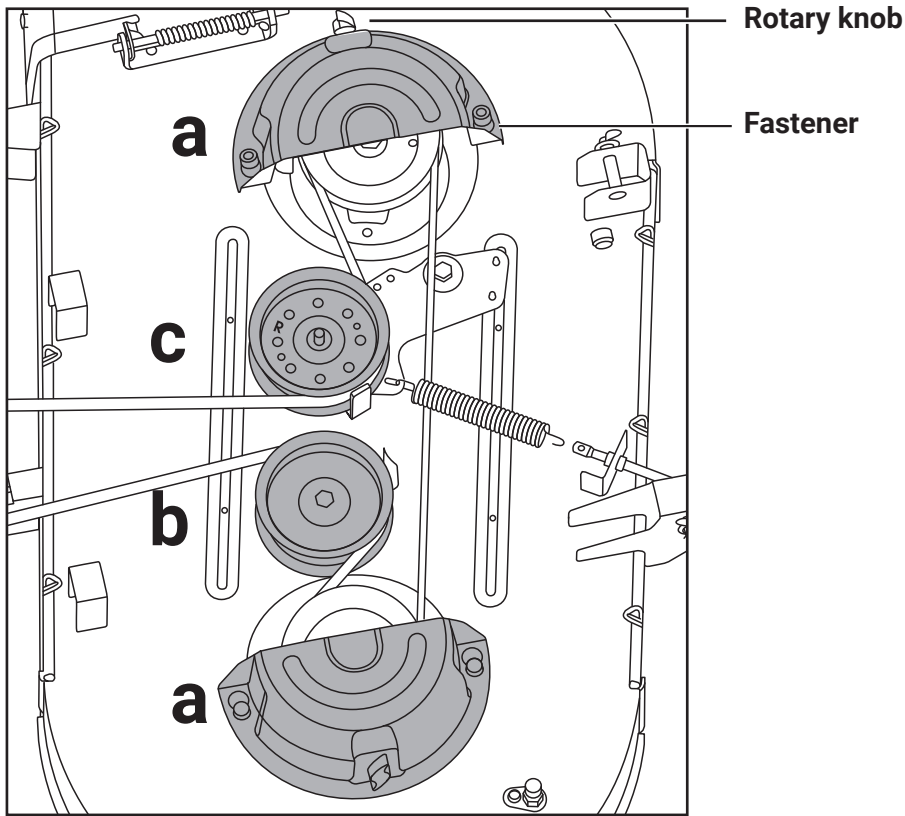

Fig. 30
3. Remove the two belt protective covers (a, Fig. 30) by pulling the cover from fastener.
4. Remove the fixed pulley (b, Fig. 30) and tension pulley (c, Fig. 30).